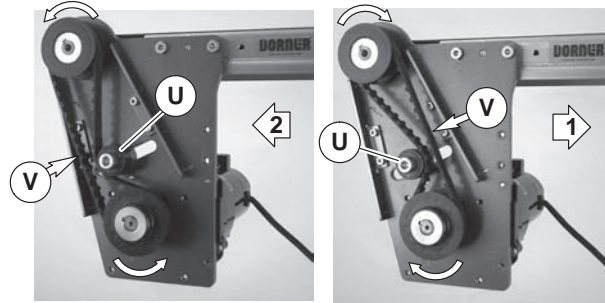

Figure 16
3. Depending on direction of conveyor belt travel (1 or 2 of Figure 16), position timing belt tensioner (U) as shown. Tension timing belt to obtain 1/8" (3 mm) deflection for 1 lb (456 grams) of force at timing belt mid-point (V). Tighten tensioner screw to 106 in-lb (12 Nm).
5. Depending on direction of conveyor belt travel (Figure 16, item 1 or 2), position timing belt tensioner (U) as shown. Tension timing belt to obtain 1/8" (3 mm) deflection for 1 lb (456 grams) of force at timing belt mid-point (V). Tighten tensioner screw to 106 in-lb (12 Nm).